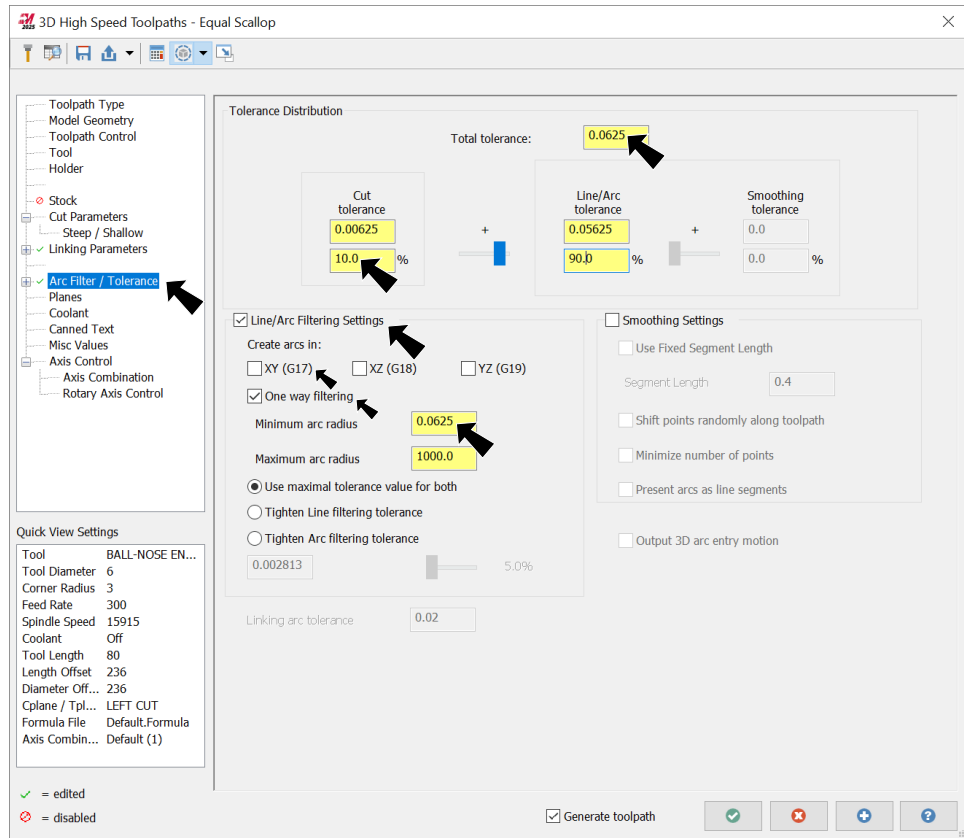

Fig. 20
Cut tolerance 10% Fig. 20.
Step 20. Confirm **toolpath avoids rear surface and doesn't pass across cartridge hole**, Fig. 20. Use **Alt-T** to toggle on toolpath display.